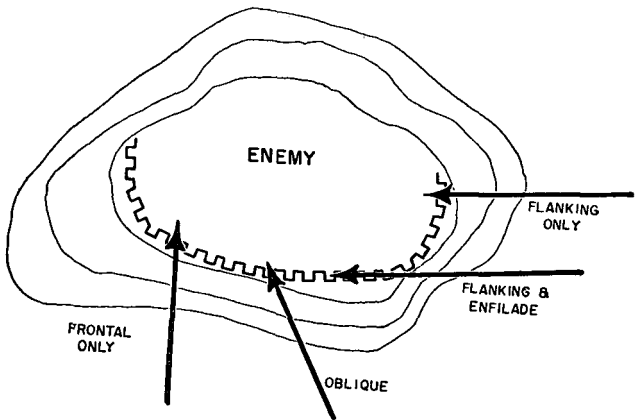

Figure 107. Classes of fire with respect to the target (direction).
a. Fire with respect to the target (fig. 107) is—
- (1) *Frontal fire* when it is delivered at right angles to the front of a target.
- (2) *Flanking fire* when it is delivered against the flank of a target.
- (3) *Oblique fire* when it is delivered so that the long axis of the beaten zone is at an oblique to the long axis of the target.
- (4) *Enfilade fire* when it is delivered so that the long axis of the beaten zone coin-